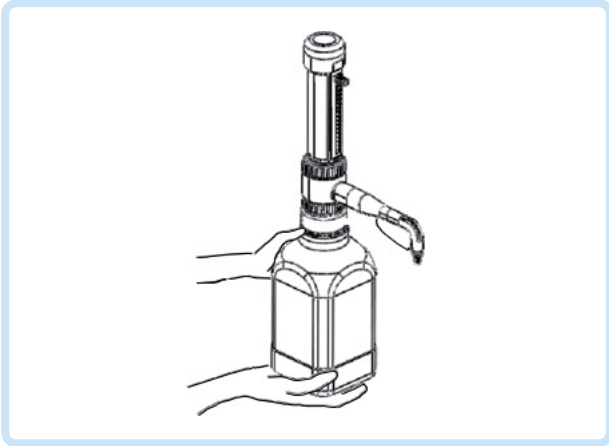

Figure 1
- Always wear protective gloves when touching the instrument and the bottle, especially when using dangerous liquids. Carry the mounted instrument only as shown in figure 1.